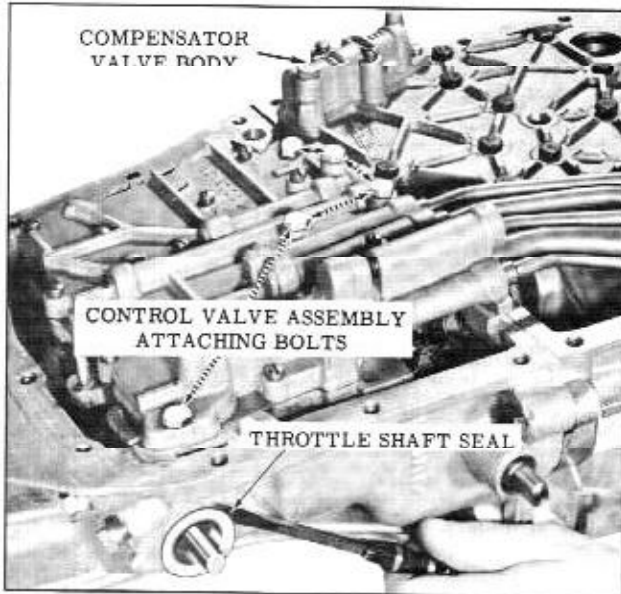

Figure 3-26 Valve Bodies and Seal
6. Pry T.V. shaft seal from side of rear bearing retainer. (Fig. 3-26)
7. Remove 5 control valve assembly attaching bolts and carefully remove control valve assembly from the pipe assembly and rear bearing retainer. (Fig. 3-26) DO NOT DROP THE MANUAL VALVE.
9. Remove the compensator valve body assembly from the servo and accumulator cover by removing 1 bolt and 3 screws. (Fig. 3-26)